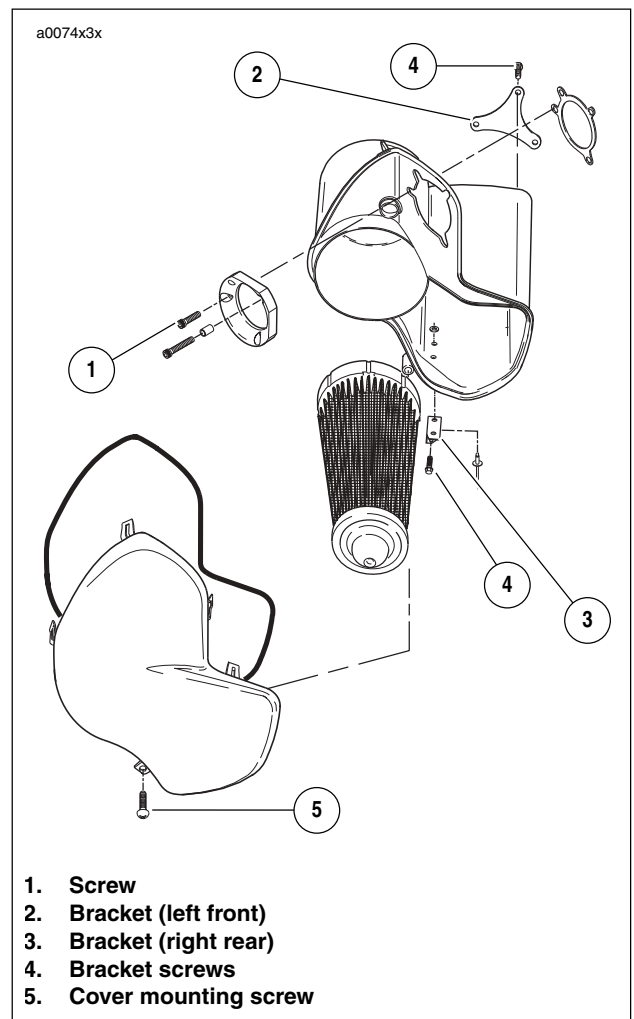

Figure 3-5. Air Cleaner Assembly
14. See Figure 3-5. Remove screws (4) on both air cleaner brackets (2,3).